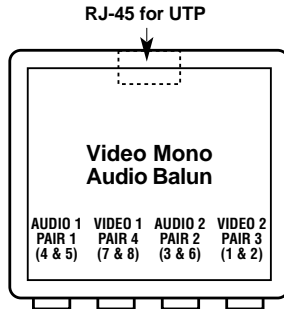

Figure 3-1. The Balun and its connectors.
- (These cables must have RCA male connectors on the Balun end.) Make sure that the VIDEO IN and AUDIO IN ports of the device on one end of the link are connected to the VIDEO OUT and AUDIO OUT ports of the device on the other end. Refer to Figure 3-1.
- (These cables must have RCA male connectors on the Balun end.) Refer to Figure 3-1.